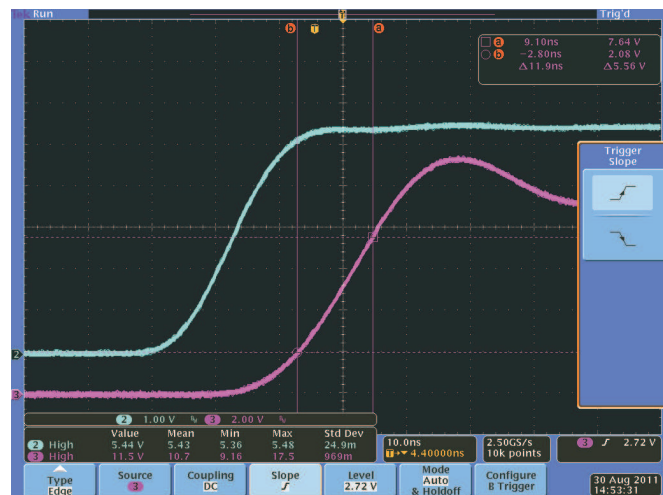

**Figure 24. Very Low Pull-Down Impedance, 4-A/8-A Asymmetrical Drive (output stage mitigates Miller turn on effect)**
An example of a situation where Miller turn on is a concern is synchronous rectification (SR). In SR application, the  $dV/dt$  occurs on MOSFET drain when the MOSFET is already held in off state by the gate driver. The current discharging the  $C_{GD}$  Miller capacitance during this  $dV/dt$  is shunted by the pull-down stage of the driver. If the pull-down impedance is not low enough then a voltage spike can result in the  $V_{GS}$  of the MOSFET, which can result in spurious turn-on. This phenomenon is illustrated in Figure 24. UCC27512 offers a best-in-class, 0.375- $\Omega$  (typ) pull-down impedance boosting immunity against Miller turn on.